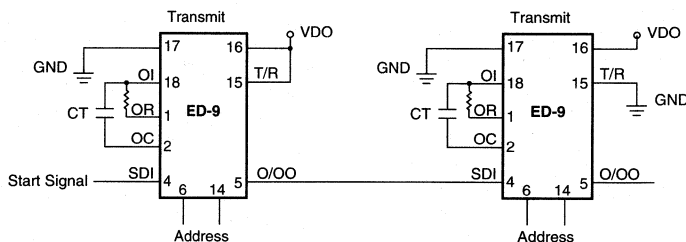

Figure 3. Address matching use.
The simplest use of the ED device is where one transmitter is used with one receiver. For address matching (such as a garage-door opener), the devices are used as shown in Figure 3. The start pulse is generated by a simple push-button. Switch bounce is not a problem because these devices “restart” the transmission each time the SDI pin pulses. Therefore, the last “bounce” will send a complete data packet, which will be received correctly. When the transmission is completed, the Data Valid (DV) pin goes high to